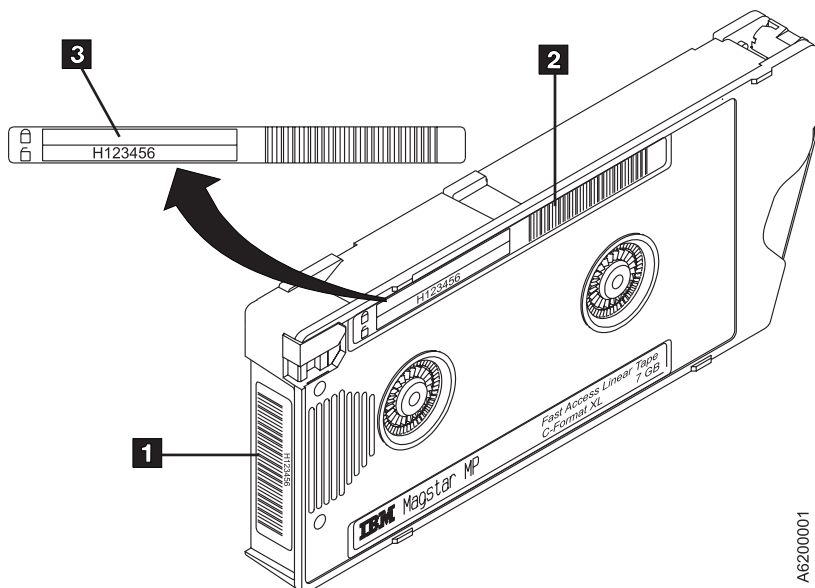

Figure 71. Magstar MP C-Format XL Tape Cartridge Labels
The bar code label that comes attached to each cartridge has a small space in which you may write (see **3** in Figure 71 on page 164). Any information that you write on the label should be written only with markers that do not smear or leave a thick residue.
- The bar code is located on two labels on the Magstar MP cartridge. (See **1** and **2** in Figure 71 on page 164).
3. Orient the labels on the cartridge, as shown in Figure 71.